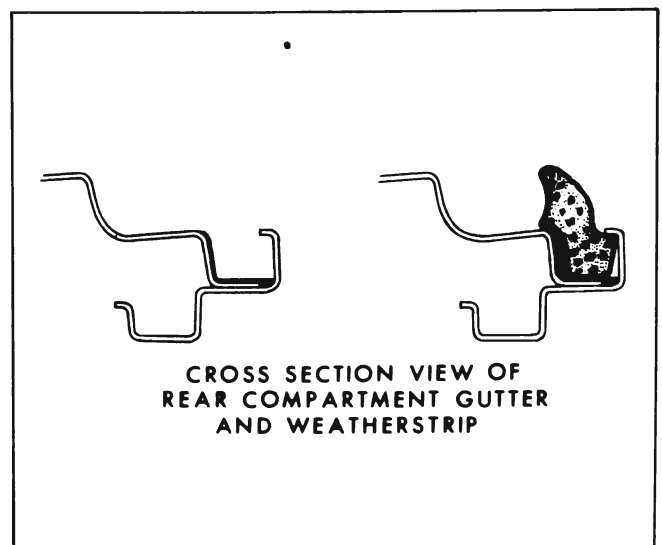

Figure 13-75—Rear Compartment Gutter and Weatherstrip
2. Apply (brush) a continuous coat of weatherstrip cement (neoprene type) along the lower and outer surfaces of the rear compartment gutter, as indicated at "1" in Figure 13-75, around full length of gutter.
5. Using a pressure type applicator, apply weatherstrip cement (neoprene type) between weatherstrip and outer surface of gutter as indicated at "2" in Figure 13-75, completely around gutter to assure a watertight seal.